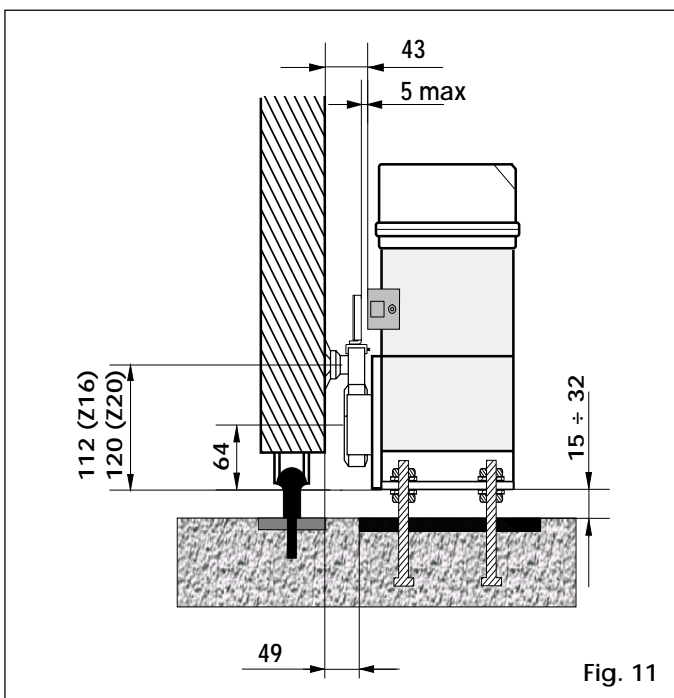

Fig. 11
- 4) Adjust the height of the feet and the distance from the gate as shown in Fig. 11.